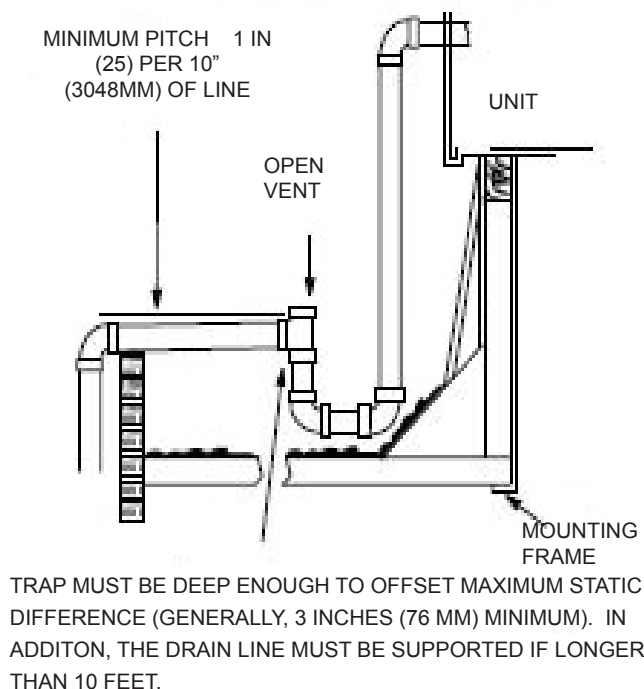

Figure 3
**The condensate drain line must be properly trapped and routed to a suitable drain.** See Figure 3 for proper drain arrangement. The drain line must pitch to an open drain or pump to prevent clogging of the line. Seal around the drain connection with suitable material to prevent air leakage into the return air system.